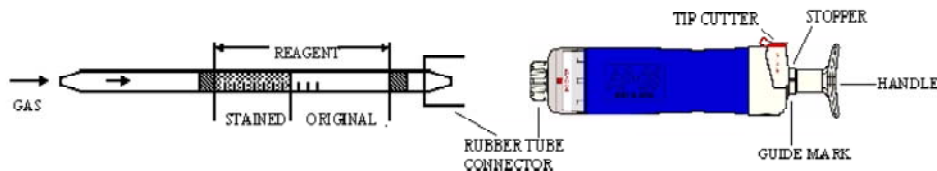

Fig.1
- ① Break both ends of detector tube.
- ② Insert the detector tube into aspirating pump securely as shown in Fig.1. (Arrow mark shall point to the pump.)
- ③ Align the guide marks on the shaft and stopper of the aspirating pump.
- ④ Pull the pump handle at full stroke until it locks and wait for 1 minutes or until the completion of sampling is confirmed with the flow indicator of the pump (See descriptions about the flow indicator in the instructions of the pump).
- ⑤ On completion of sampling, read the scale at the maximum point of the stained layer.
- ⑥ If the discolouration is over the full scale (1600ppm), 1/2 (50ml) pump strokes sampling is available. Insert the new detector tube into the pump inlet and pull the pump handle at 1/2 pump strokes (to 50ml line), and it will be automatically locked. Leave it for 45 seconds as it is.
- ⑦ Remove the detector tube from the pump and read the concentration.
- ⑧ Then multiply the reading value by 2